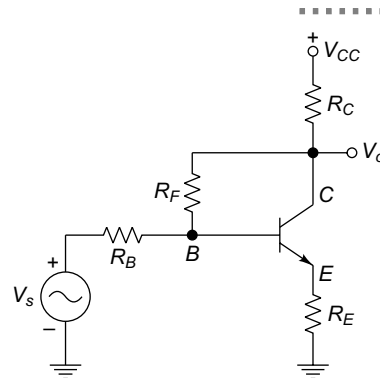

Fig. 2.41 Circuit of Ex. 2.18
2.18. Figure 2.41 shows the transistor feedback amplifier circuit and it has the following parameters: